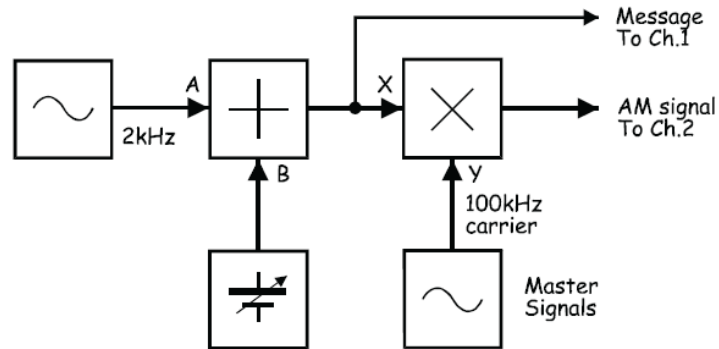

Figure 5.2 AM with carrier modulation
7. Modify the set-up as shown in Figure 5.2 below.